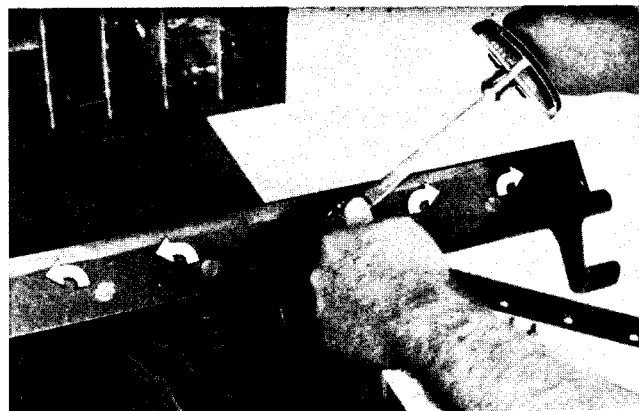

Figure 34
4. Install new bedknife with the proper bedknife screws (57-4910). Bedknife screws must bottom out on bedknife, not bedbar. Tighten screws to a torque of 200 in-lb, working from the center toward each end of the bedbar (Fig. 34).